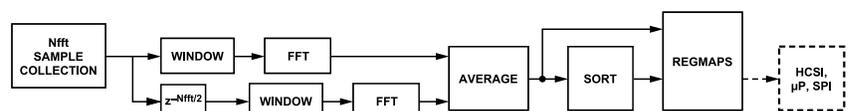

Figure 123. Averaging of top and bottom FFT
- **Top/Bottom FFT Averaging:** Each sniffer instance has one top FFT engine and one bottom FFT engine that is half of the FFT point delay than the top engine. Both engines compute in parallel as shown in Figure 123. With this feature enabled, the outputs of the top and bottom FFT engine are averaged which assists in avoiding certain critical time domain events. Top/Bottom FFT averaging is enabled by default and can be disabled by setting `bottom_fft_enable` to be value "0".